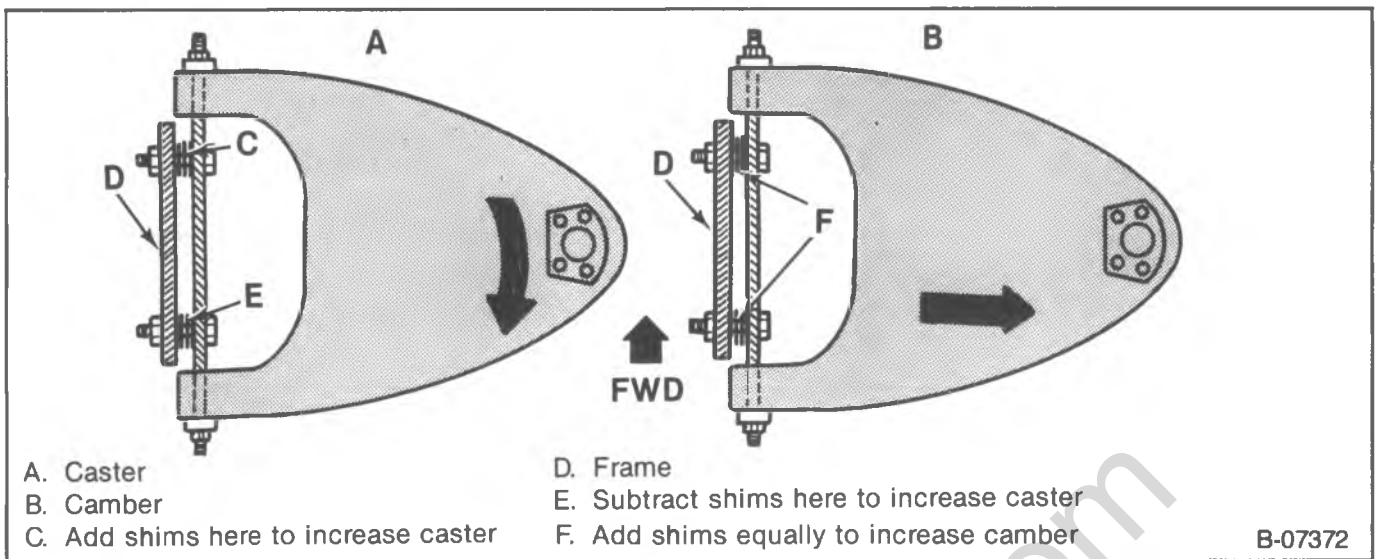

Figure 3—Caster-Camber Adjustment
5. Refer to figure 3. To determine an "actual (corrected) caster reading" with various frame angles and caster readings, one of the following rules apply: